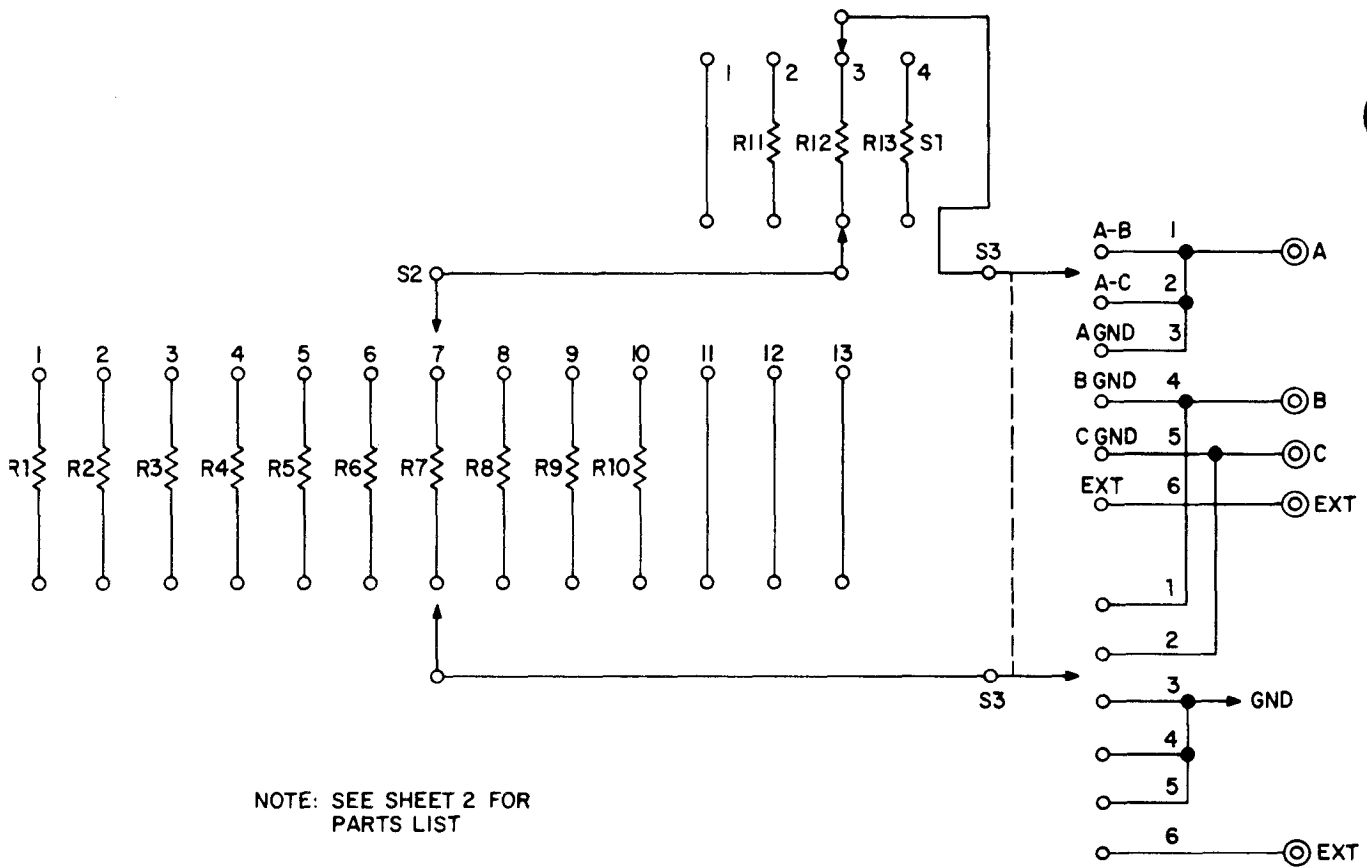

Figure 1-2. Test fixture fabrication
b. Test Fixture. Assemble the test fixture in accordance with figure 1-2.